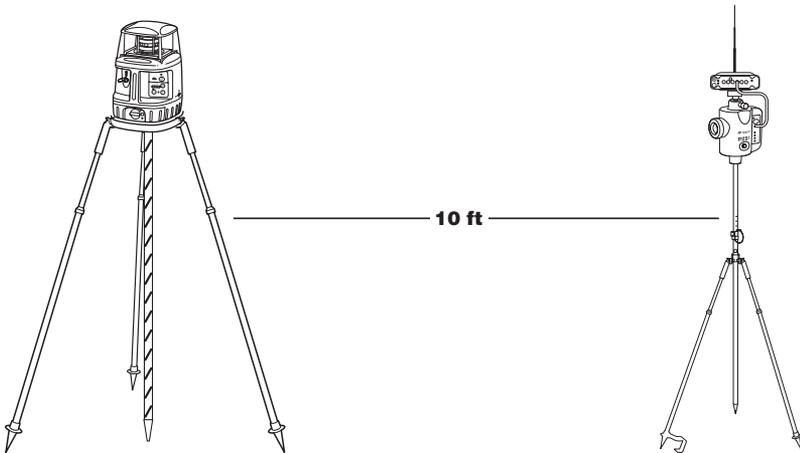

Figure 4-1. Setup Transmitter and Sensor
3. Walk several feet away from the transmitter and face the sensor towards the transmitter (Figure 4-1).